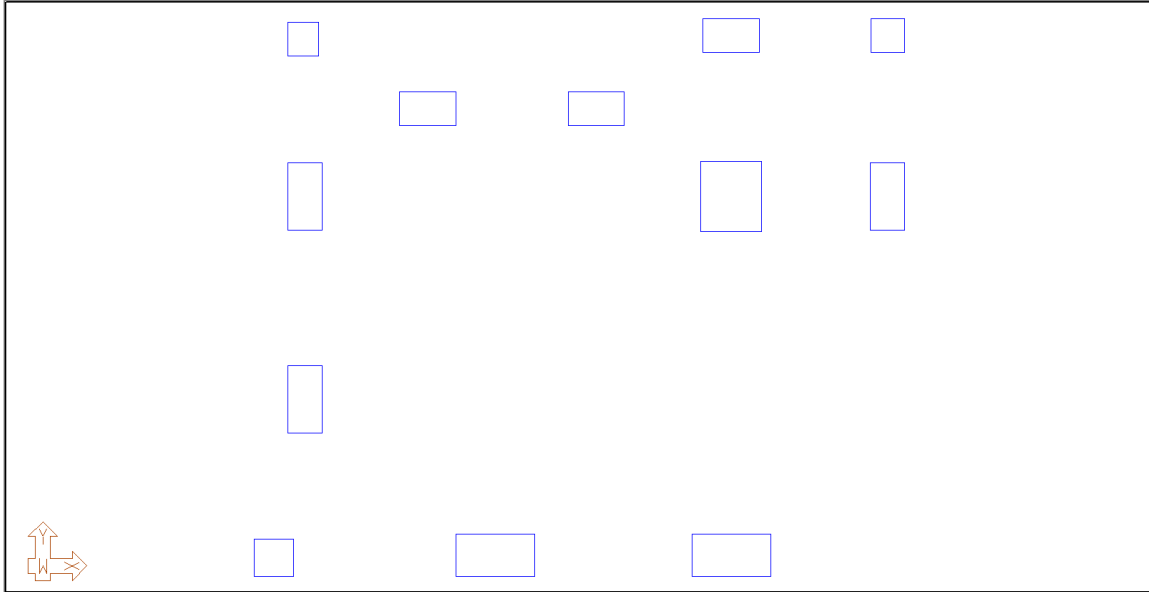

FIGURE 5-20
- Click on the **OK** button, the user should now see the polylines from the imported DWG as shown in **FIGURE 5-20**. If the polylines representing the drop caps are not visible, click the **Zoom Extents** icon of the *Bottom Quick Access* toolbar.